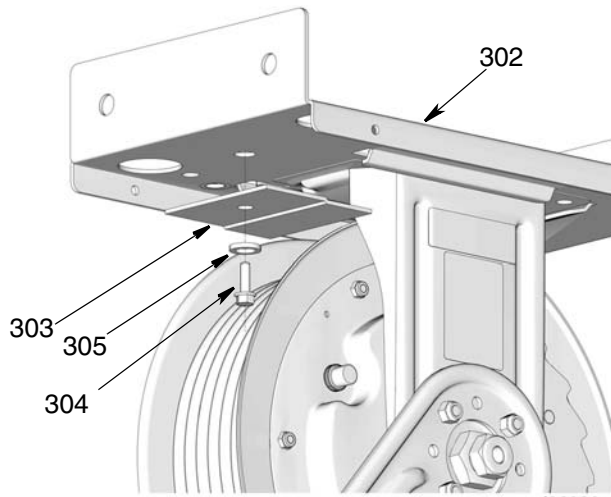

FIG. 6
6. Install hold down plate (303) using screw (304) and washer (305) (FIG. 6).